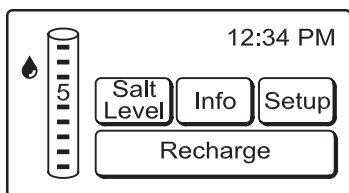

FIG. 22
1. Press the **SETUP** button on the softener status screen (See Figure 22).